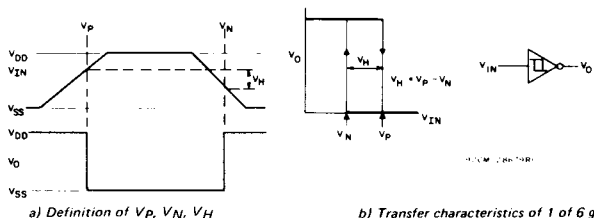

Fig. 6 - Hysteresis definition, characteristics, and test set-up.
■ CD40106B consists of six Schmitt-trigger circuits. Each circuit functions as an inverter with Schmitt-trigger action on the input. The trigger switches at different points for positive- and negative-going signals. The difference between the positive-going voltage (V_P) and the negative-going voltage (V_N) is defined as hysteresis voltage (V_H) (see Fig.6). The CD40106B types are supplied in 14-lead hermetic dual-in-line ceramic packages (D and F suffixes), 14-lead dual-in-line plastic package (E suffix), and in chip form (H suffix).